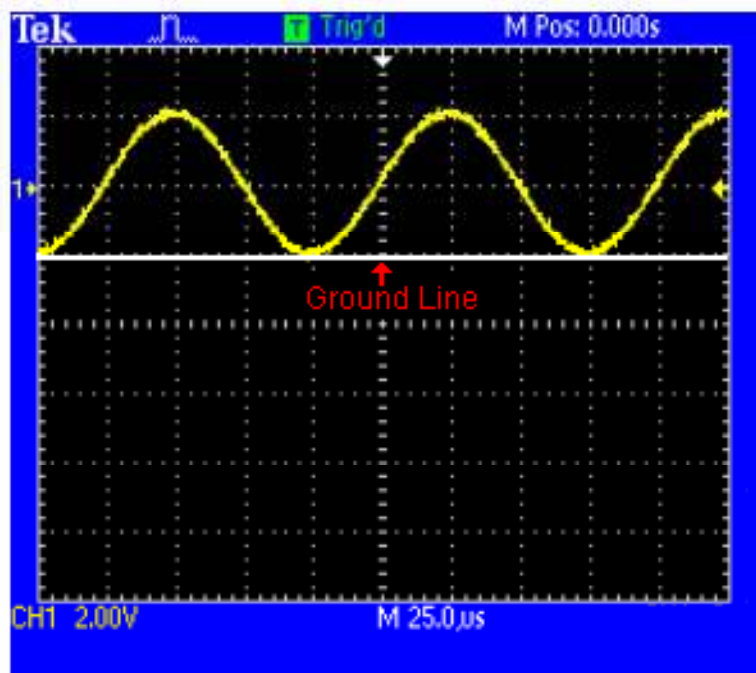

Figure 4.18
3. What is the dc level of the waveform in Figure 4.18 below?
4. What is the frequency of the waveform in Figure 4.18 below?